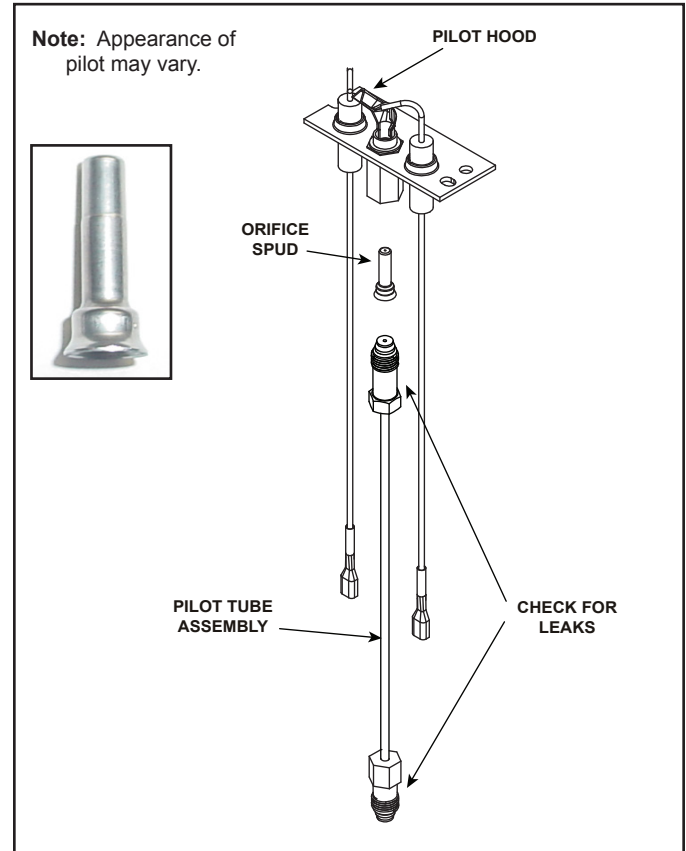

Figure 4
11. Unscrew the pilot tube fitting on the pilot assembly and replace the orifice spud with the similar one included in the conversion kit. See Figure 4.
16. Use a commercially available, noncorrosive leak check solution to test for leaks around the pilot. Be sure to rinse off all leak check solution following testing. See Figure 4 for leak check points. Extinguish the pilot.